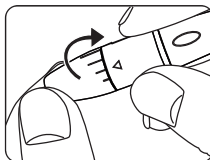

Figure 10
STEP 5: Set the Lancing Level. The adjustable tip offers five (5) levels of skin penetration. To select the desired depth, twist the adjustable tip in either direction until the number lines up with the arrow. To select the best depth: 1–2 for soft or thin skin, 3 for average skin, 4–5 for thick or callused skin. *See Figure 10.*